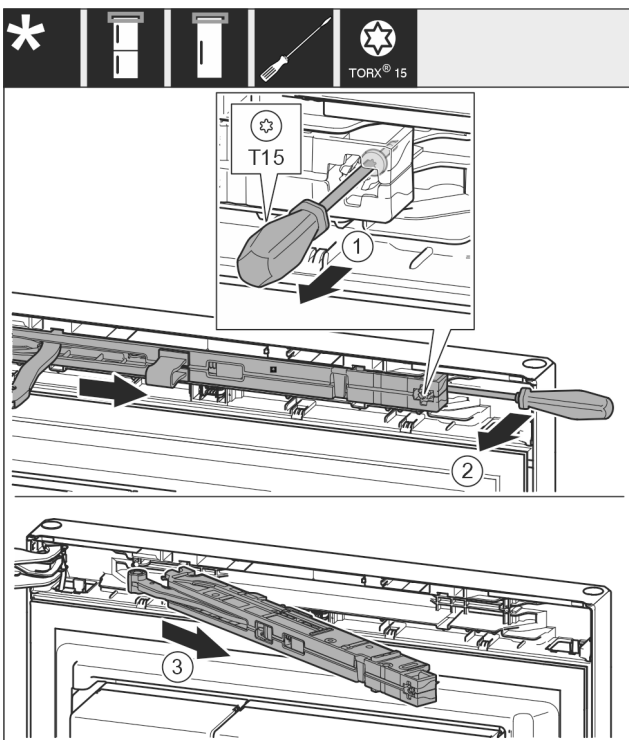

Fig. 12
- Undo the soft stop mechanism screw with a T15 screwdriver approx. 14 mm. Fig. 12 (1)
- Insert a screwdriver behind the soft stop mechanism on the handle side and rotate the unit forwards. Fig. 12 (2)
- Pull out the soft stop unit. Fig. 12 (3)